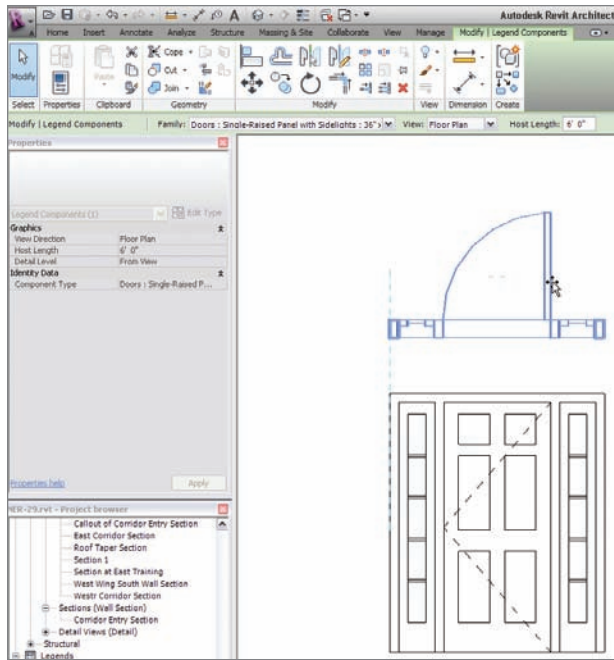

FIGURE 11.43 Placing two instances of the same door for the legend
6. With the command still running, you can place another instance. This changes the view to Floor Plan. Place another instance of the door just above the elevation, as shown in Figure 11.43.
7. In the Options bar, be sure Host Length is set to 6'-0" (see Figure 11.43).